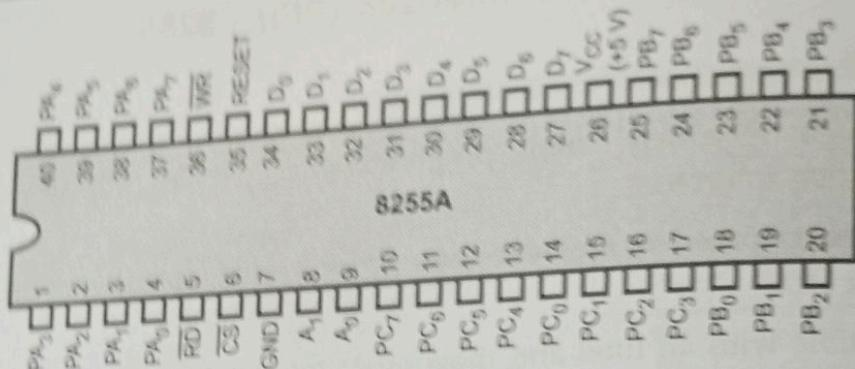

Fig. 3.4.1 Pin diagram of 8255A
- Fig. 3.4.1 shows the pin diagram of 8255.